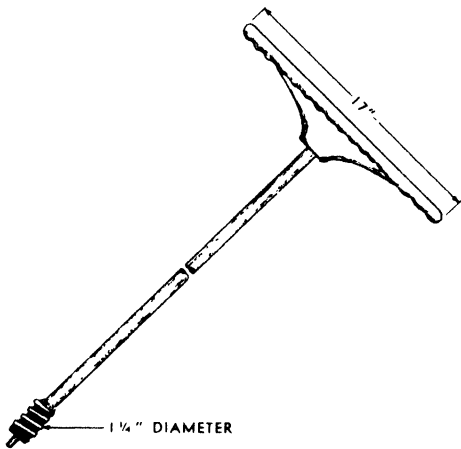

FIG. 97. STEERING WHEEL.
- 6. Calculate the V.R. of the automobile steering wheel shown in Fig. 97.